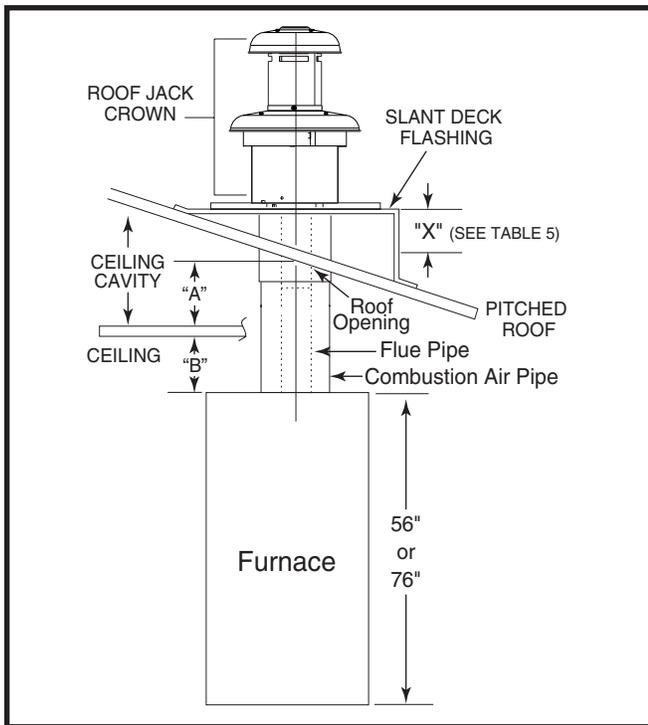

Figure 17. Ceiling Cavity Depth
1. Determine depth of ceiling cavity from center of roof opening to center of ceiling opening noted as “Dimension A” in Figure 17 (page 11).
2. Determine ceiling height and subtract height of furnace noted as “Dimension B” in Figure 17 (page 11).